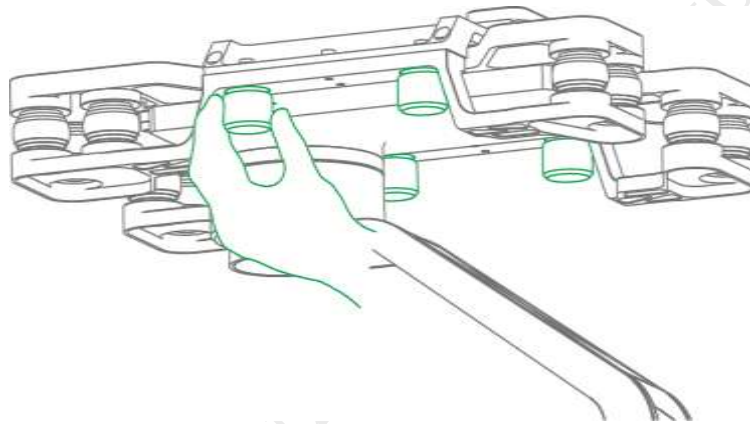

Figure 0-4
Step 1 Loosen 4 mounting screws, as shown in Figure 0-4.